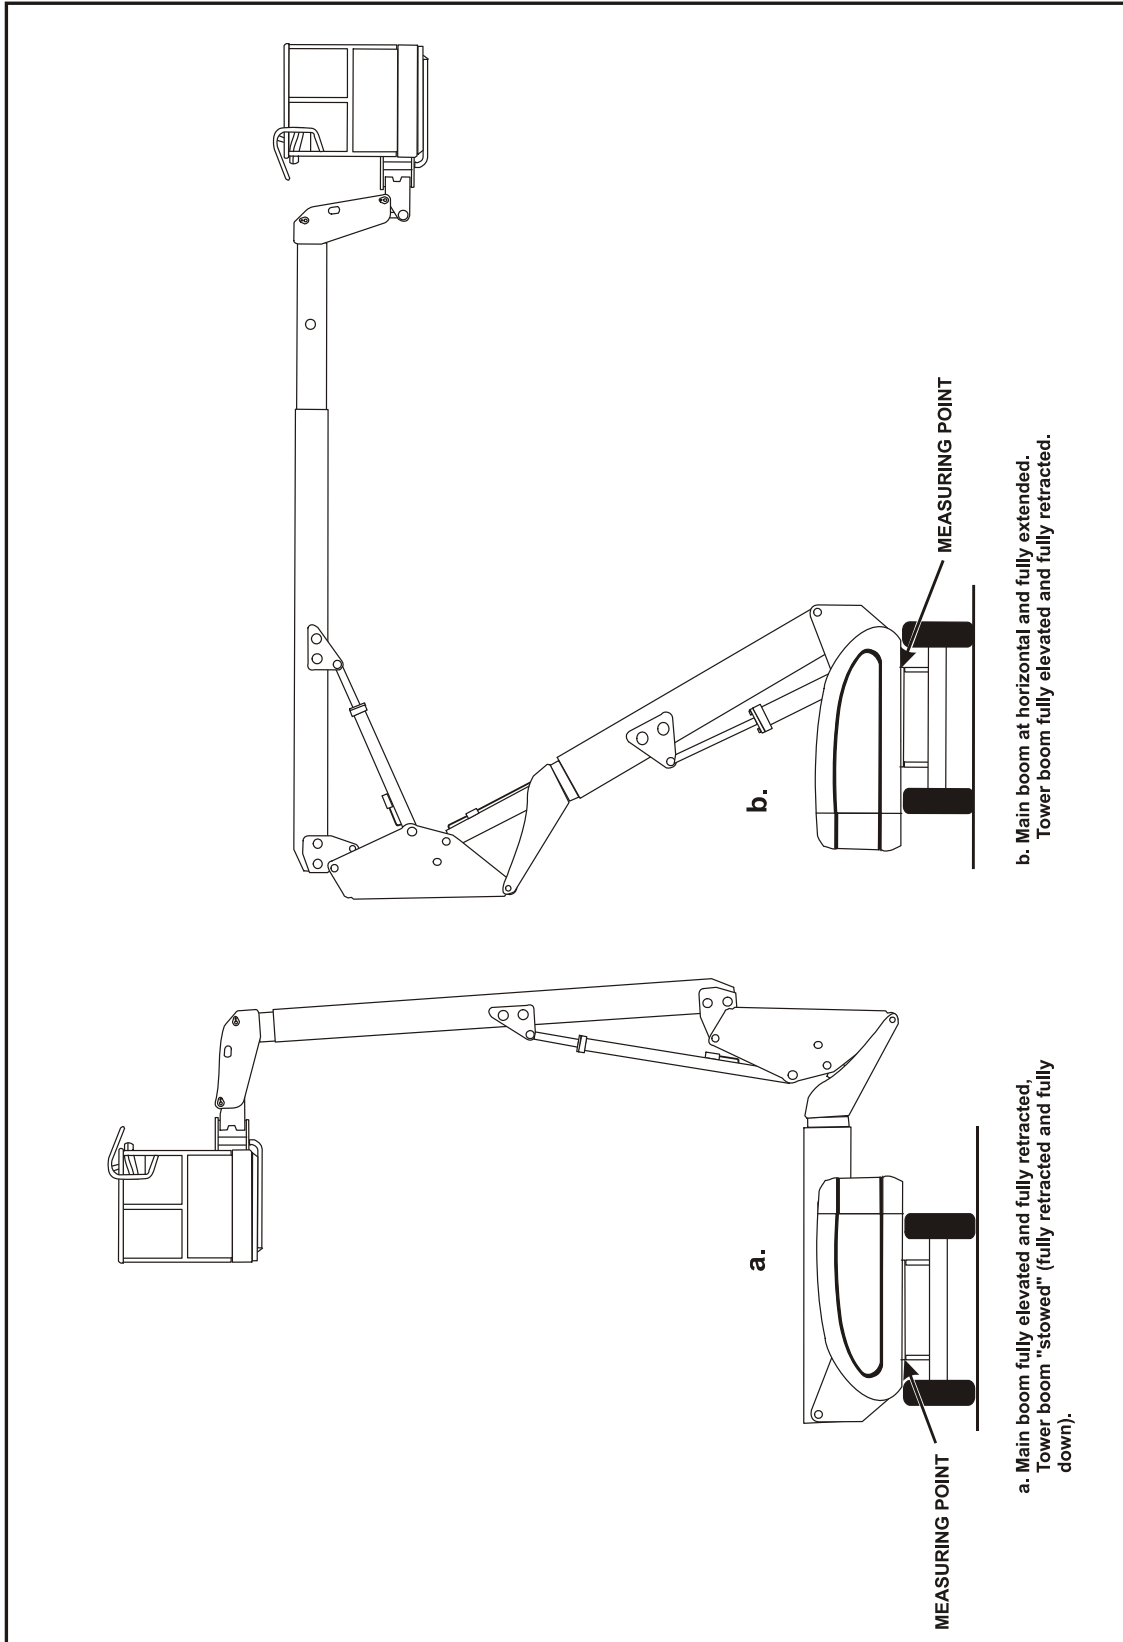
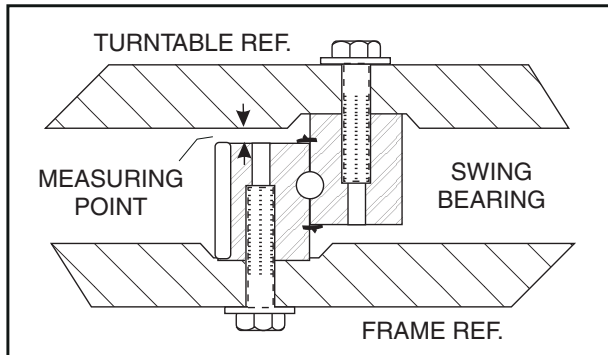

Figure 3-44. Swing Bearing Tolerance Boom Placement
Figure 3-45. Swing Bearing Tolerance Measuring Point
1. From the underside of the machine, at rear center, with the boom fully elevated and fully retracted, as shown in and Figure 3-44., Swing Bearing Tolerance Boom Placement - Swing Bearing Tolerance Boom Placement) A, using a magnetic base dial indicator, measure and record the distance between the swing bearing and turntable. (Figure 3-45., Swing Bearing Tolerance Measuring Point)
2. At the same point, with the boom at horizontal and fully extended, and the tower boom fully elevated as shown in (Figure 3-44., Swing Bearing Tolerance Boom Placement - Swing Bearing Tolerance Boom Placement) B, using a magnetic base dial indicator, measure and record the distance between the swing bearing and turntable. (Figure 3-45., Swing Bearing Tolerance Measuring Point)